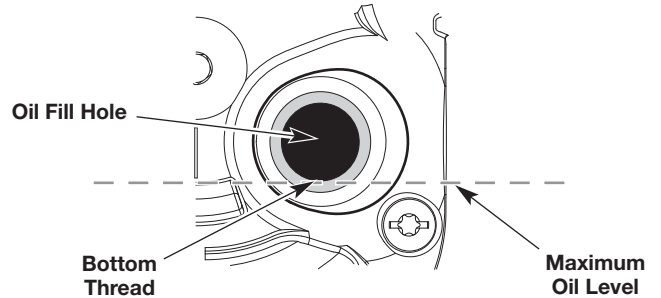

Fig. 15
5. Look into the oil fill hole; use a flashlight if necessary. **The oil level should just touch the bottom thread of the oil fill hole** (Fig. 15).